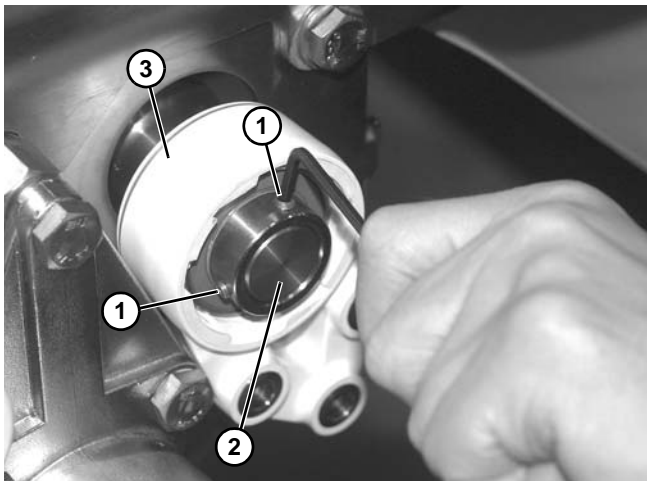

Figure 93
15. Loosen two set screws (Figure 93, item 1) securing bearing onto idler spindle (Figure 93, item 2).
16. Remove roller bearing housing (Figure 93, item 3) from idler spindle (Figure 93, item 2). Repeat to remove second roller bearing housing.